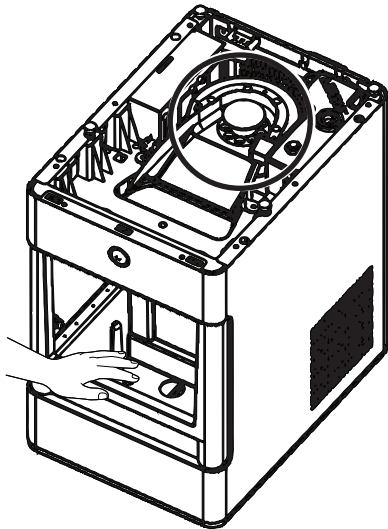

Figure 11
3. Clean the sensors with vinegar and wipe clean with water. After draining the vinegar, run three rinse cycles, using fresh water for each rinse. See figures 11, 12, and 13 to reference location of the sensors. Appearance may vary based on model.